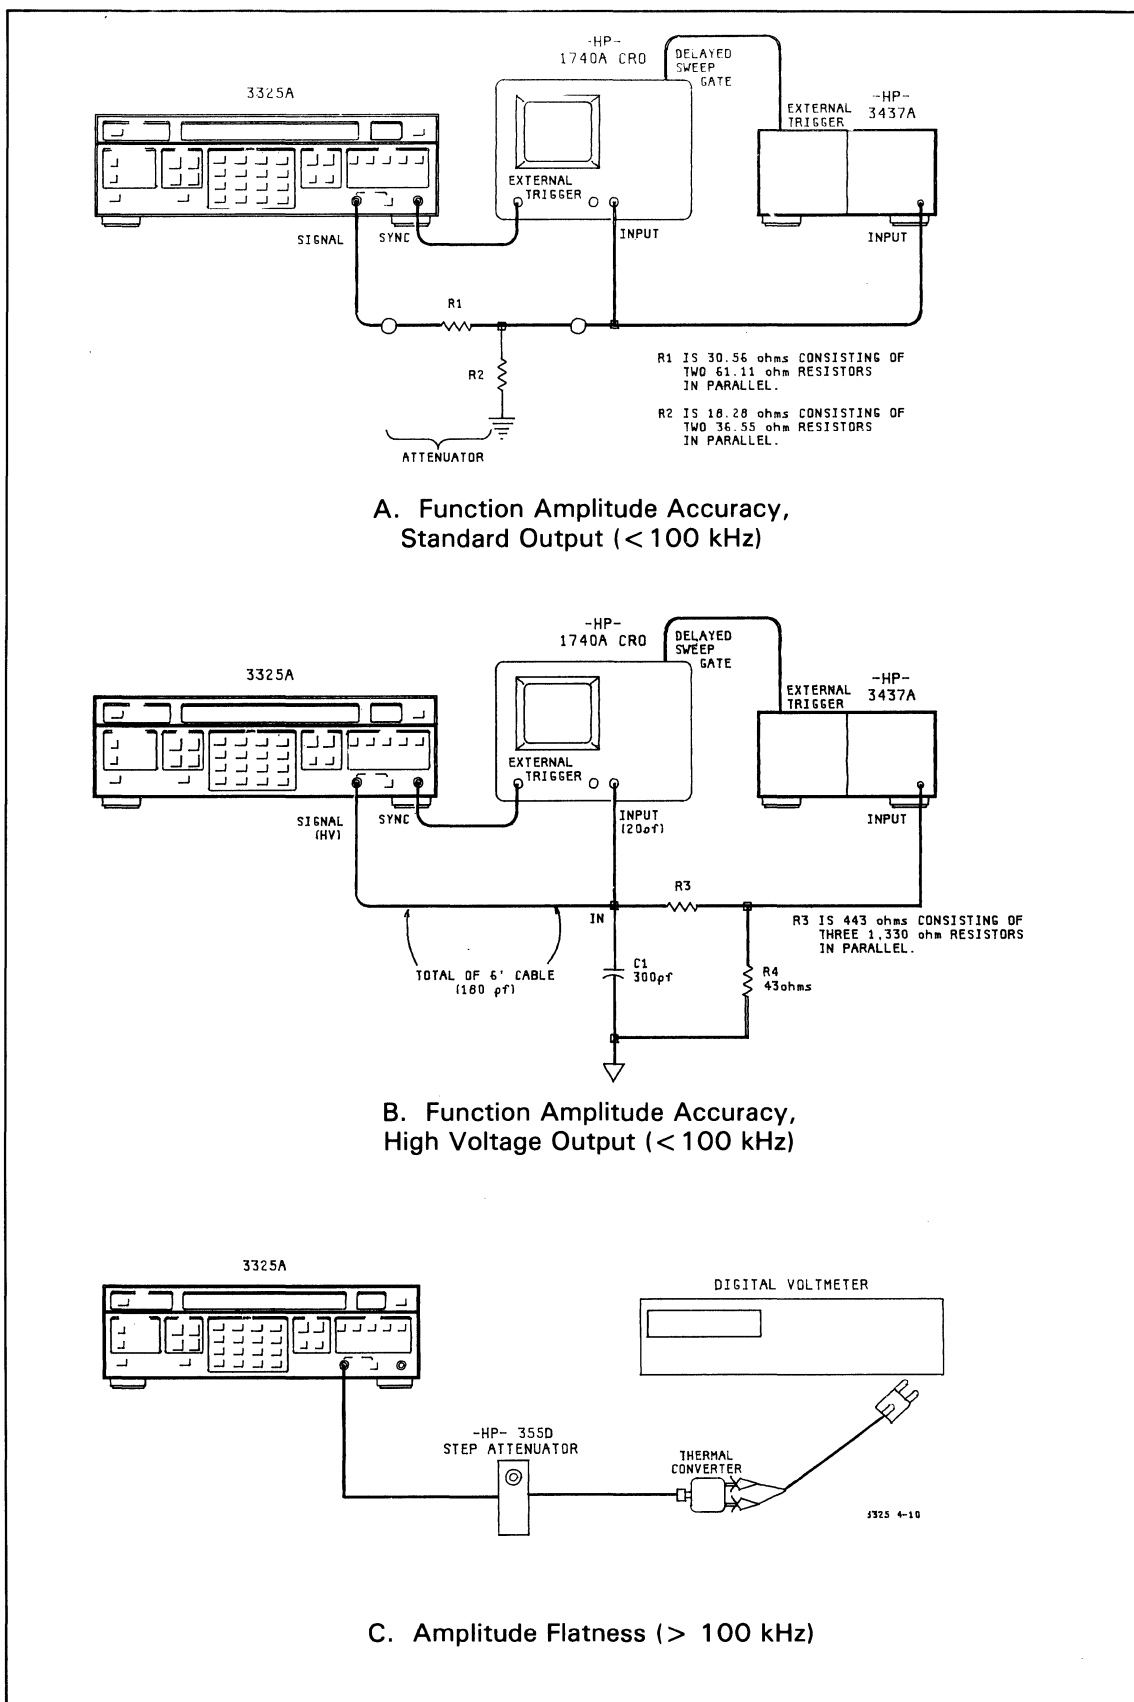

Figure 4-10. Amplitude Accuracy and Flatness.
hh. **High Voltage Function Test.** Connect 3325A signal output to CRO and voltage divider via a 6 ft. cable. Trigger CRO on 3325A sync output. Trigger high speed DC voltmeter on delayed sweep gate from CRO. See Figure 4-10(B).
ii. The voltage divider shown in Figure 4-10(B) is built into a small metal box with 2 BNC connectors. Parts used are:
Connect the tap to the input of high speed DC voltmeter as shown in Figure 4-10(B).
oo. Set the 50 Ω attenuator (-hp- Model 355C) to 3 dB and connect to signal output. Connect 1 V_{RMS} thermal converter (-hp- 11050A) to attenuator output. Connect DC digital voltmeter with microvolt resolution (-hp- 3455A) to thermal converter output. See Figure 4-10(C).
yy. Connect the 3325A output to an oscilloscope (-hp- 1740A) with a 500 Ω , 500 pF load (load attached at either end). Cable capacitance (30pF/foot) must be included in the 500 pF. The HV divider (Figure 4-10(B)) may be used with 6 feet of cable.